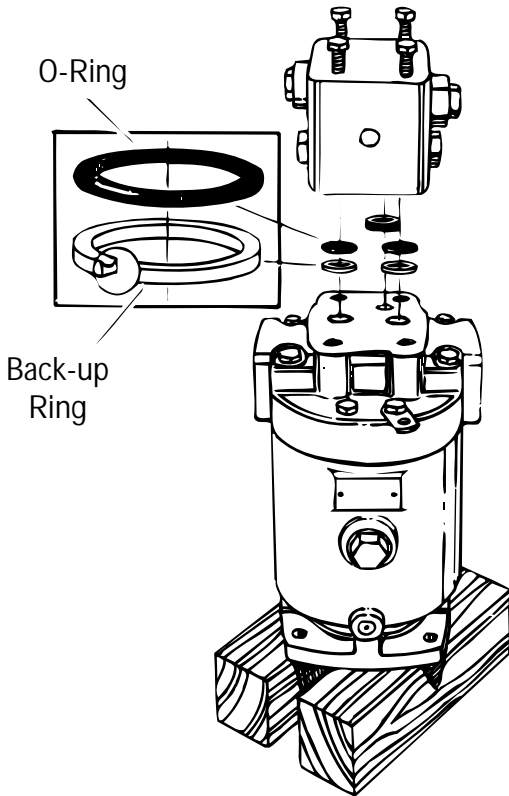

Figure 30
67. Install O-rings and back-up rings on valve block. The high pressure ports require an O-ring and back-up ring. The O-ring goes on first, then the back-up ring – with the rounded side of ring toward the O-ring – as shown in Fig 30. Install square-cut ring in low pressure drain port of valve block.